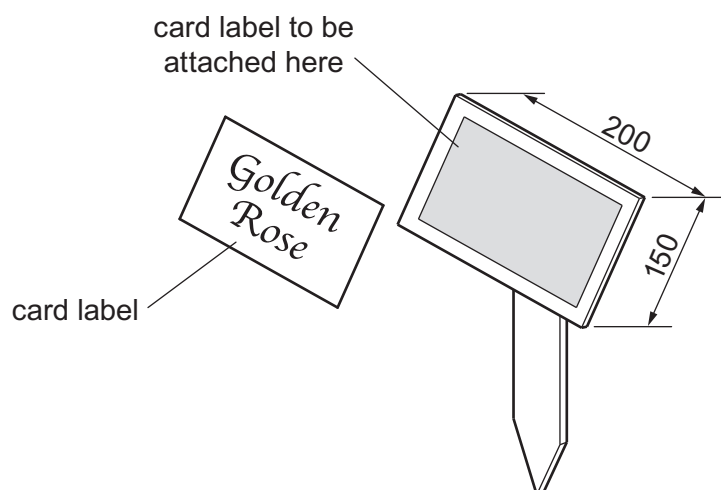

Fig. 4.1
- 4 Fig. 4.1 shows a nameplate used in a garden centre.